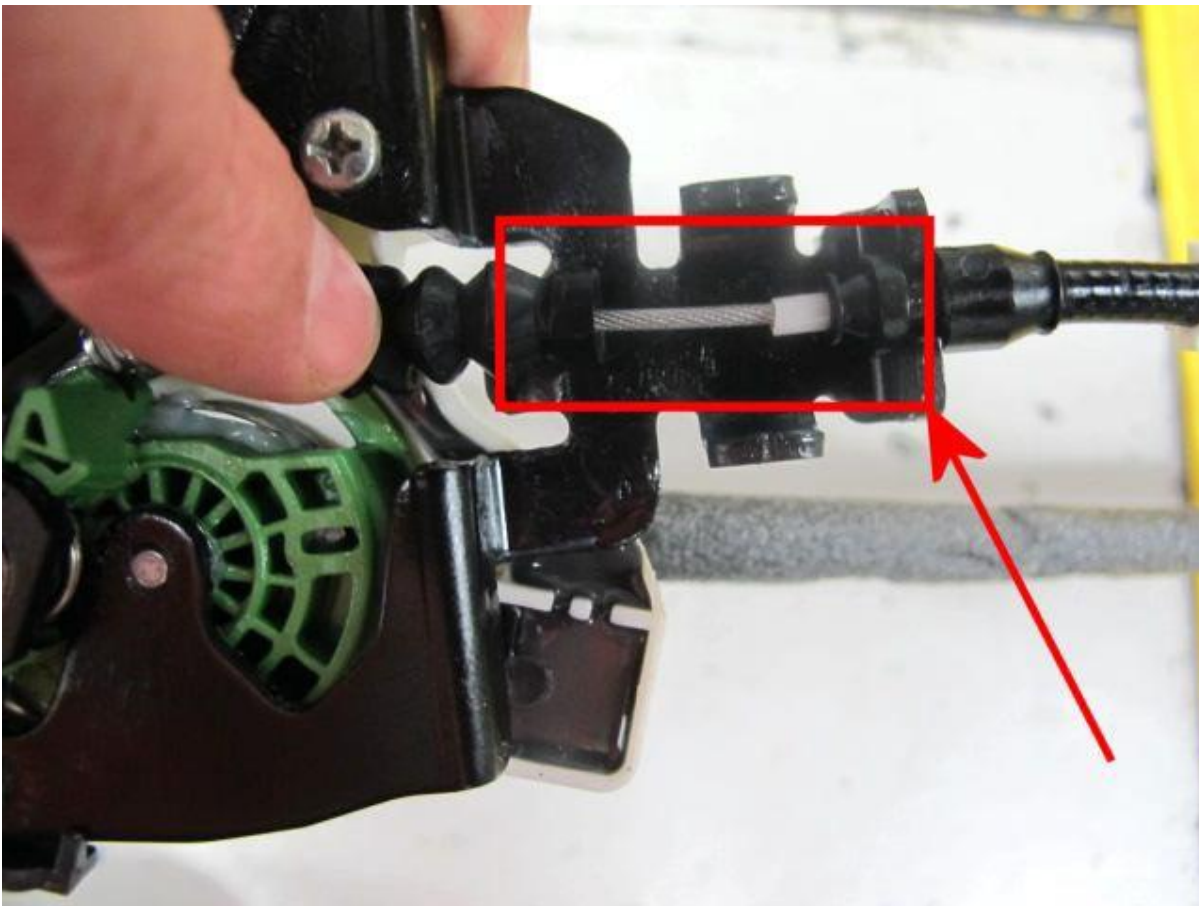

Figure 1
- 3) Referring to Figure 1, Remove the rubber boot - Apply Dow Corning Molycote 33 extreme - Low temperature bearing grease to the inner cable